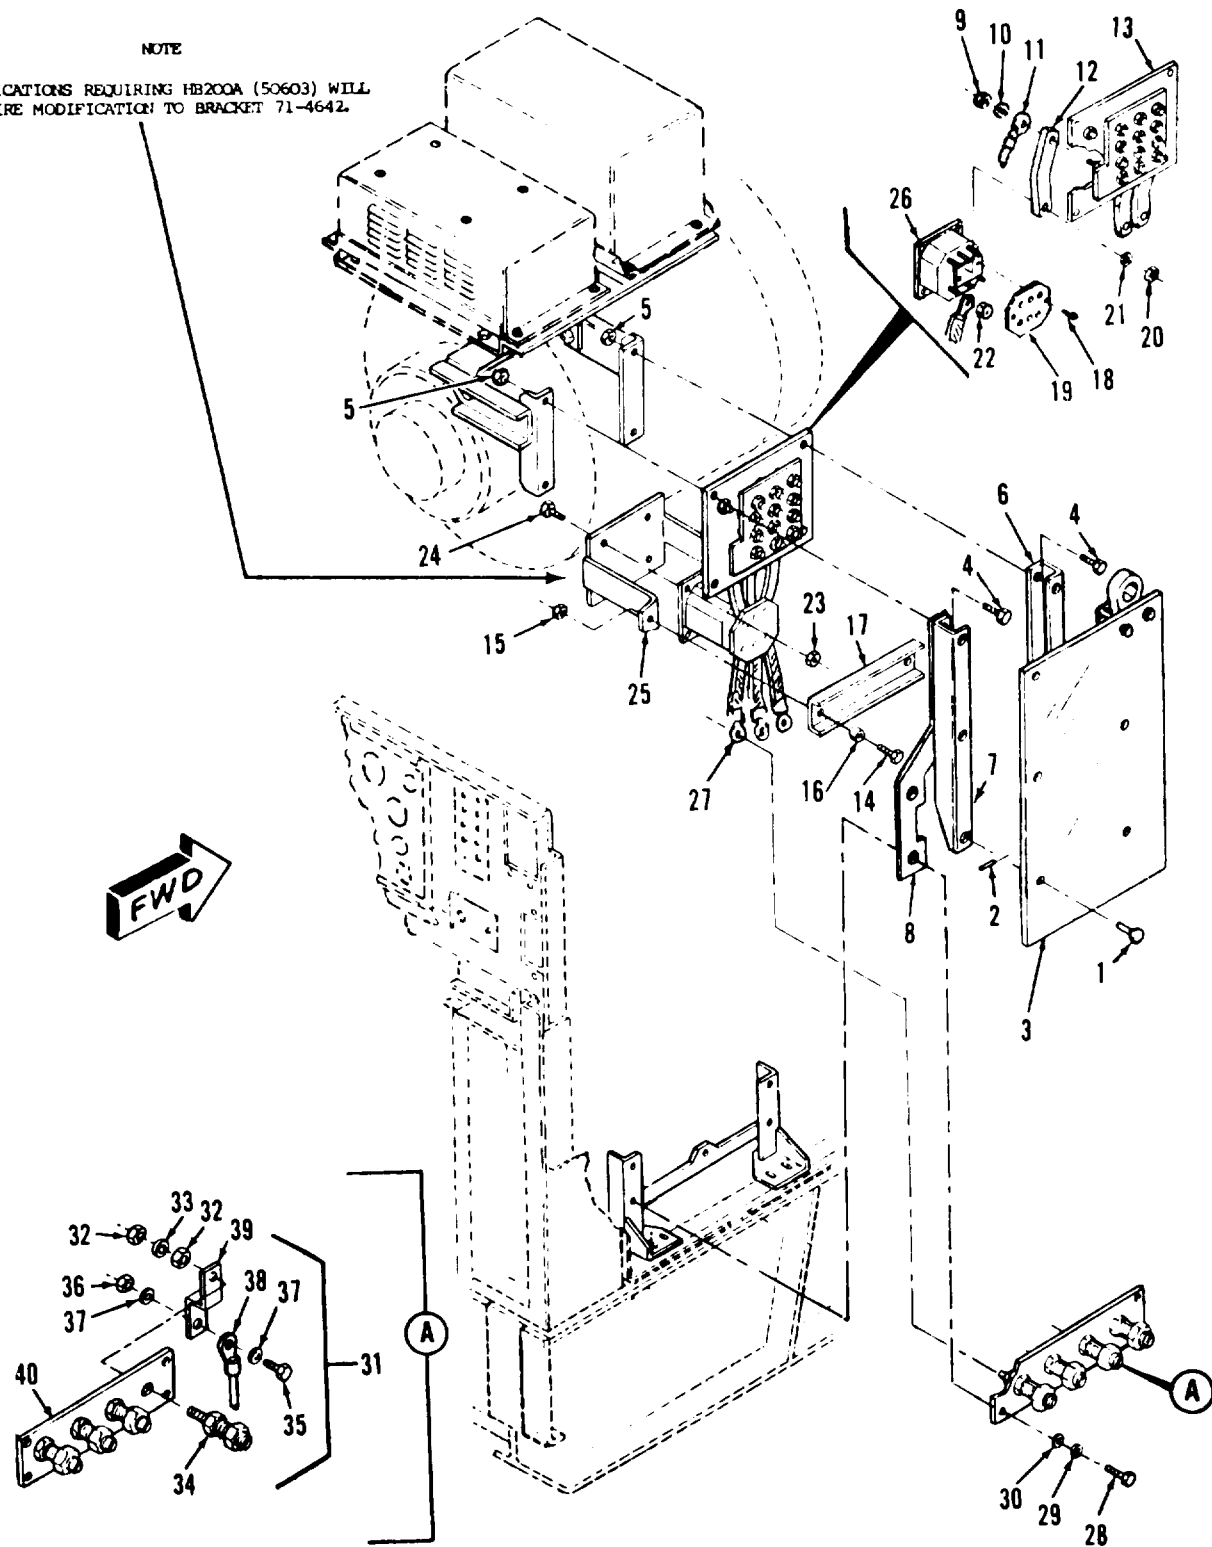

Figure 6-36. Reconnection board assembly, load contactor, and load board assembly, removal and installation
6-138. REMOVAL. Refer to figure 6-36 and remove reconnection board assembly as follows:
6-143. INSTALLATION. Refer to figure 6-36 and install reconnection board assembly as follows:
1. Remove protective cover (3, figure 6-36) by loosening stud (1).
Legend to figure 6-36:
■ b. Removal. Refer to figure 6-36 and remove load contactor as follows:
1. Remove protective cover (3) by loosening studs (1).
2. Disconnect bracket (17) by removing screws (14), spacers (16), and nuts (15).
3. Disconnect cover (19) from load contactor by removing screws (18). Disconnect bus bar (12) and contactor cables (27) from load contactor by removing nuts and washers.
4. Loosen nuts (9) securing bus bars (12) to reconnection board studs, to remove bus bars from contractors.
6. Disconnect load contactor (26) from mounting bracket (25) by removing nuts (23) and screws (24).